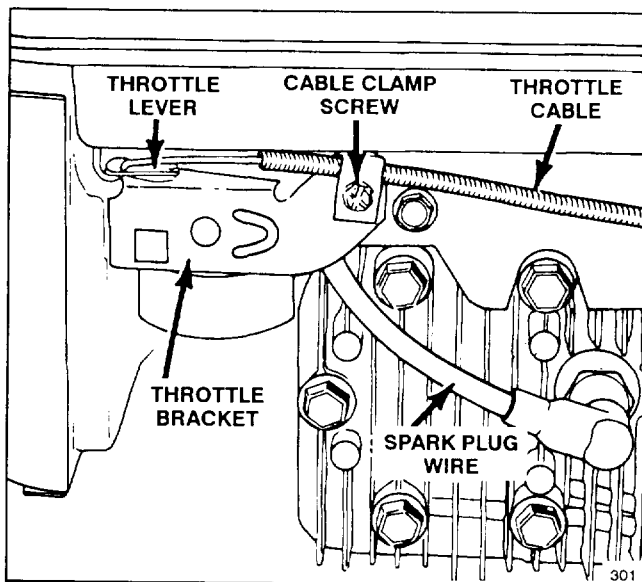
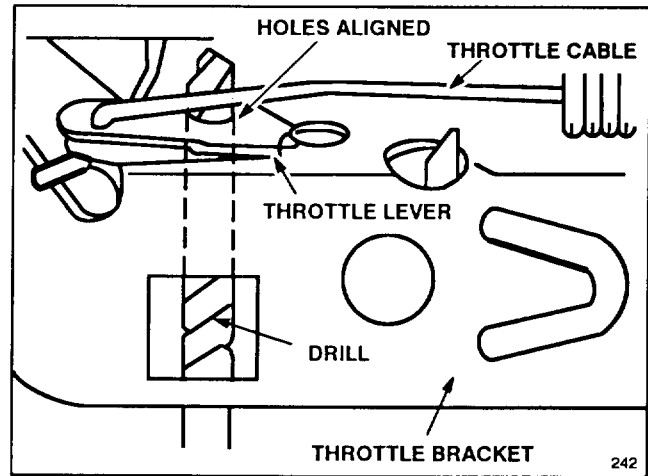

Figure 15
Figure 16
1. Stop engine and pull wire off spark plug (Fig. 15).
3. Loosen cable clamp screw until throttle cable slides (Fig. 15). Align holes in throttle lever and throttle bracket using a 1/8" diameter drill (Fig. 16). Tighten cable clamp screw to lock adjustment in place.
1. Stop the engine. Pull the wire off the spark plug (Fig. 15).
1. Stop engine and wait for all moving parts to stop. Pull wire off spark plug (Fig. 15).